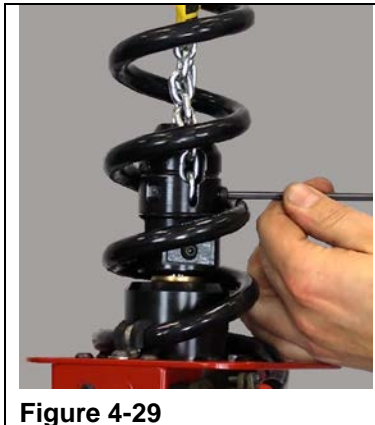

Figure 4-29
- Step 39. Next, the last link of the SDS chain is installed into the bottom slot of the chain nest. The chain must be kept parallel with no twists. The bolt is installed through the last link of the SDS and into the chain nest. (Refer to Figure 4-29)